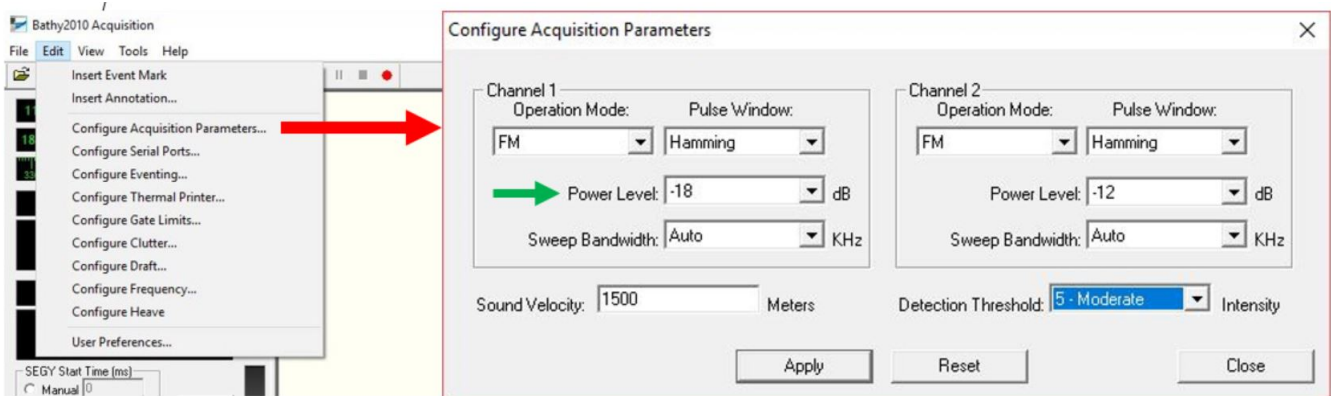

Figure 3 : Acquisition Parameters (power level)
- Open the **Edit** drop down menu and select "*Configure Acquisition Parameters...*" to set the power levels for Channel 1 (3.5 kHz) and/or Channel 2 (12 kHz), if in use (See Figure 3).
- b. Increase the power of the sonar in the “Configure Acquisition Parameters...” window (Figure 3).